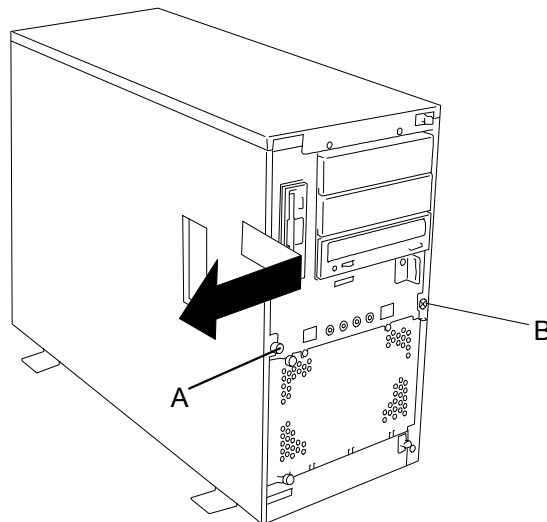

Figure 4-3. Removing the Left Side Panel
5. Pull the side panel out and away from the chassis (Figure 4-3).